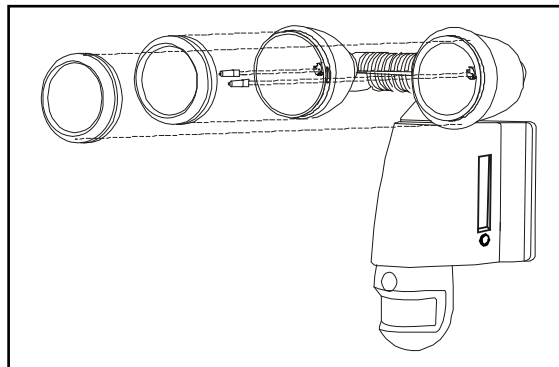

Fig. 3
1. Install/replace the halogen bulb (see fig. 3)
- If replacing a bulb, take out the existing halogen light bulb (part no. ②)
- Put in new 100 Watt maximum JCD G8 bulb (part no. ②).